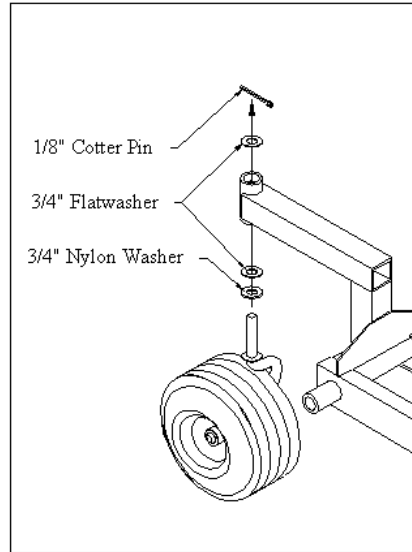

Fig. 2
2. Slip $\frac{3}{4}$ " nylon washer (30) over caster yoke (7) assembly pin. Slip $\frac{3}{4}$ " flatwasher over pin. Insert caster pin thru rear frame support tube. Slip $\frac{3}{4}$ " flatwasher over pin and secure assembly with $\frac{1}{8}$ " cotter key. **Fig. 2**